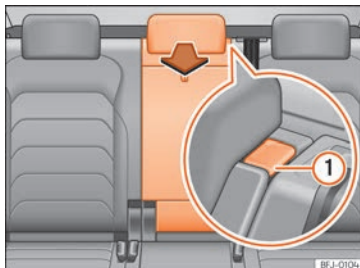

Fig. 126 Backrest of the rear seat: opening the trapdoor for long loads
- Press the unlocking button » **Fig. 126 ①** and fold the tailboard forward » **⚠**.